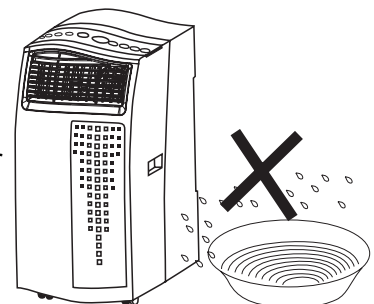

FIG. 3
- To avoid the risk of shock, the product should never be used in bathrooms, shower rooms or in any other steamy/wet areas (Figure 3).